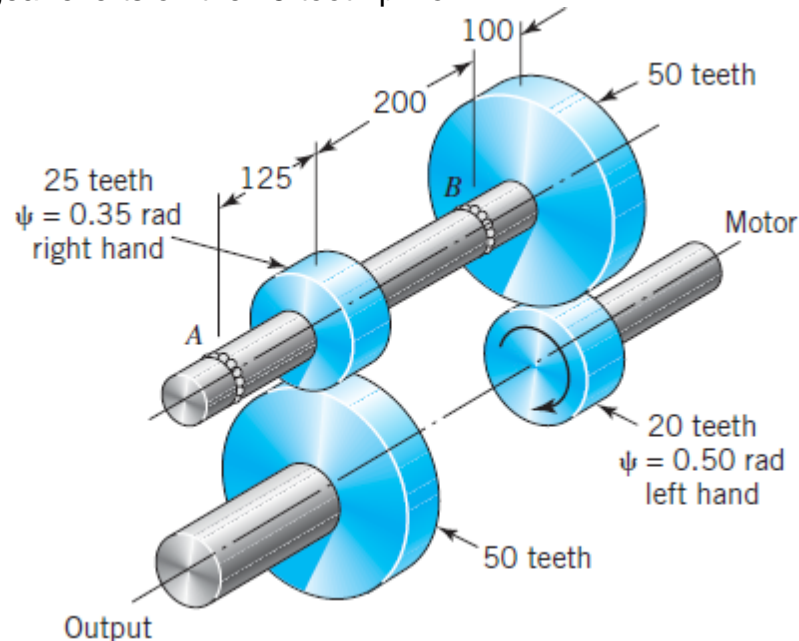

Fig.2 Helical gear assembly (ref: Fundamentals of Machine Component Design, 5th Edition, Wiley.)
2. The four helical gears shown in Fig. 2 have a module in the normal plane of 4 mm and a pressure angle in the normal plane of 0.35 rad. The motor shaft rotates 550 rpm and transmits 20 kW. Other data are on the drawing.